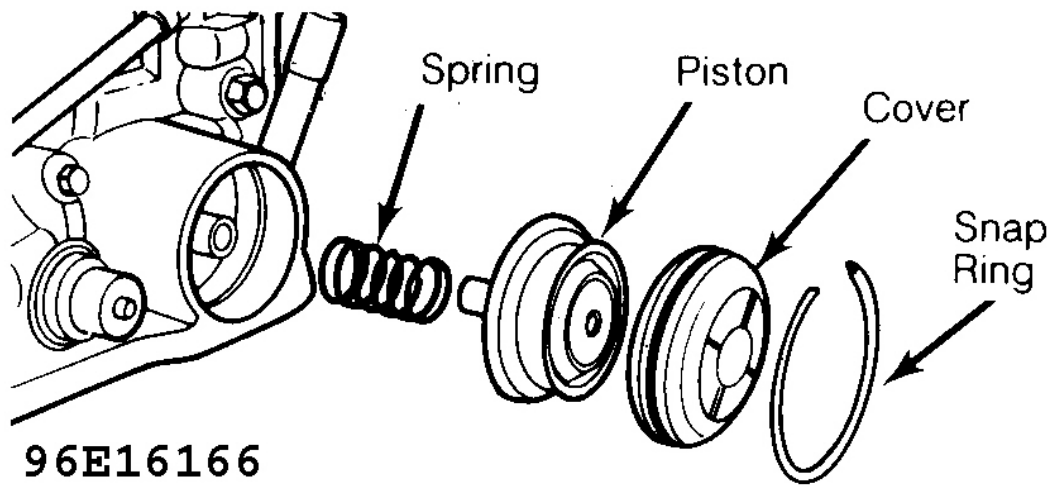

Fig. 35: Exploded View of Front Servo Assembly
Clean all parts and blow dry. Inspect all parts for burring, unevenness, and gum deposits. Lubricate all parts with transmission fluid. Install valves, springs, plugs, and pins. See **Fig. 35**. Using new gasket, install separator plate.
5. Replace front servo piston or "O" rings at this time, if necessary. Install spiral spring on front servo piston assembly. Install piston and cover. Press down on cover with Compressor (T74P-77028-A). Install snap ring. See Fig. 35 .